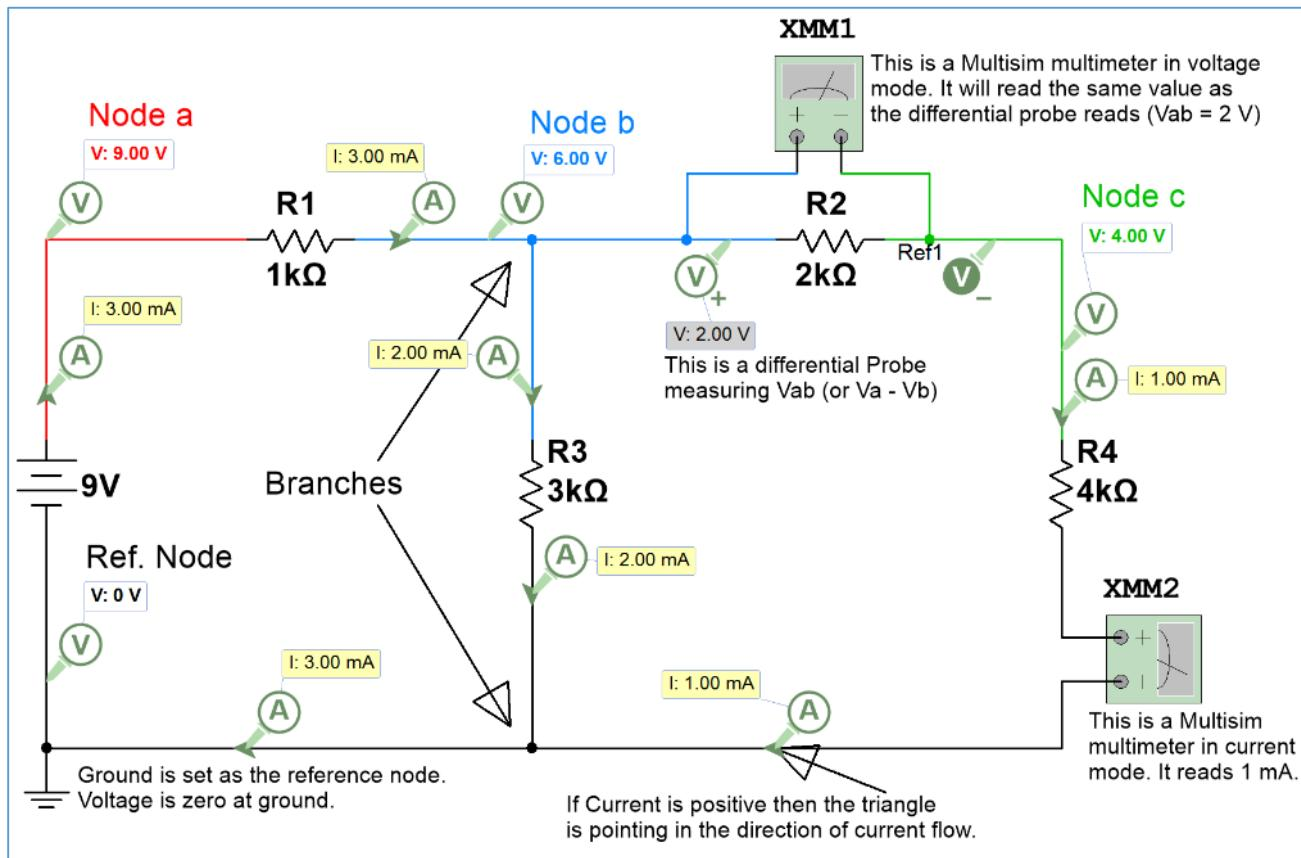

Figure 1.7: Circuit showing probes, Multimeters, branches, and nodes.
Before discussing current let's look at some statements about voltage. Figure 1.7 provides some visual explanations to these statements.
- Voltage is the same at all points on a node (a place shared by 2 or more circuit elements). For example, the blue line that represents Node b in Figure 1.7 is 6 V at every point on the blue line.
- When measuring voltage across one or more components with a Multisim Multimeter (see XMM1) you wire two different nodes to the + and – terminals and then double click on the meter and put it in Volts mode (V) and DC mode (straight line). XMM1 reads the voltage value across R2, which is also the value of Vab. Vab is the difference between node voltages Va and Vb. Vab is an example of **double subscript notation** ($V_{ab} = V_a - V_b$). Va is an example of **single subscript notation**. Va is the voltage at node a, and the reference is ground. When ground is not the reference for the measurement differential probes can be used to measure the voltage difference between nodes.
- Current doesn't change as it runs through components until it is split in a branch (see Figure 1.7). Voltage doesn't change at a branch unless it goes through a circuit element.
- When measuring current with a Multisim Multimeter (see XMM2 in Figure 1.7), you have to break the circuit and run it through the meter and then double click on the meter and put it in Amps mode (A) and DC mode (straight line). The same process is used to measure the current with an actual Multimeter as shown in Figure 1.8.
Note: In Figure 1.7 all of the Multisim probes only have I and V, but when the current and voltage probes are normally placed in Multisim the "Instantaneous and periodic" probe setting is the default so you will see 5 voltage measurements (as shown in Figure 1.7a). From top to bottom these voltage measurements are: 1-Instantaneous, 2-peak to peak (V_{pp}), 3-Root-Mean-Square (V_{rms}), 4-average (V_{avg}), and the 5-frequency. The average voltage is labeled $V(dc)$ in the Multisim probe because V_{avg} is equivalent to the DC value. The instantaneous voltage is the value at a specific time and will continuously change as the AC current flows through the circuit. These four **additional parameters** for voltage or current are only used for AC circuits. When dealing with DC circuits there is only one type of voltage and current so only the instantaneous measurements are needed. To get only the DC current or voltage, click on the probe settings and change the default to "Instantaneous Only" (see Figure 1.7a).